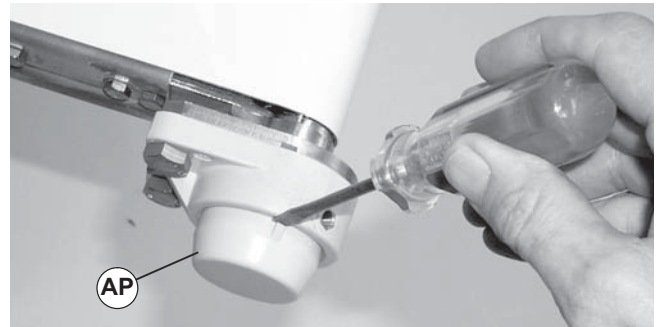

Figure 20
6. Remove bearing cover (Figure 20, item AP) from drive end of conveyor.
7. Install bearing cover (Figure 20, item AP) on drive end of conveyor.